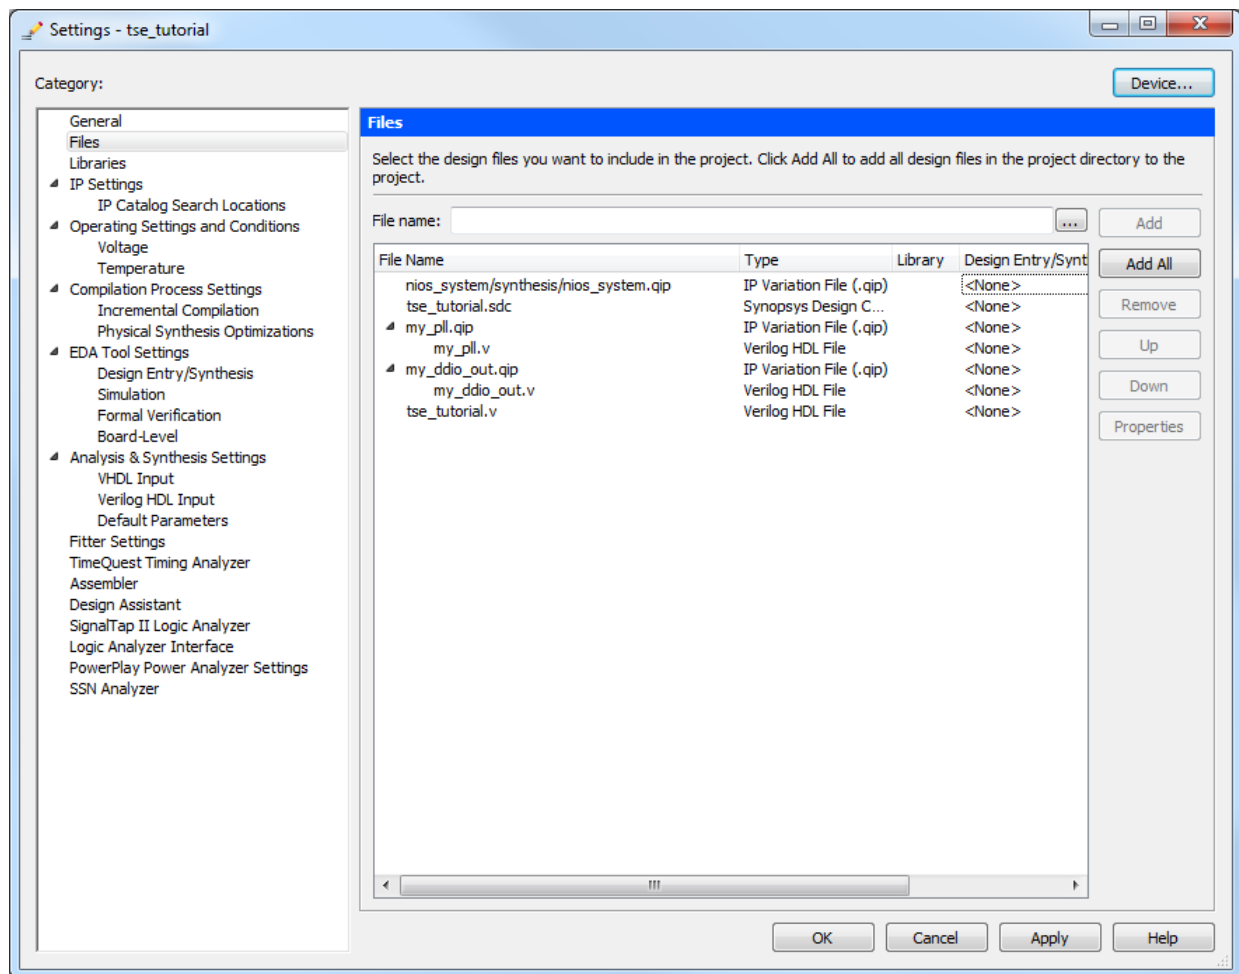

Figure 19. Settings for files included in the Project.
2. Select **Assignments > Settings...** to add the `tse_tutorial.v`, `tse_tutorial.sdc` and `nios_system.qip` files to the Quartus II project. Along with the `.qip` files for the two modules generated by the IP Catalog before, all the files included in the project are shown in Figure 19.